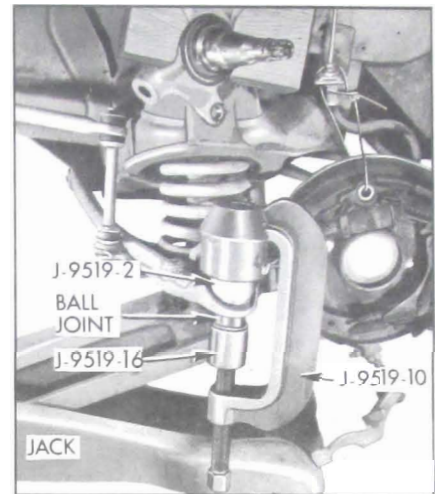

Figure 7-17—Lower Ball Joint Installer in Place
1. Position ball joint minus dust shield in lower control arm and install Tool J-9519 as shown in Figure 7-17. Note that the larger O.D. portion of Tool Detail J-9519-17 is positioned in Detail J-9519-10.